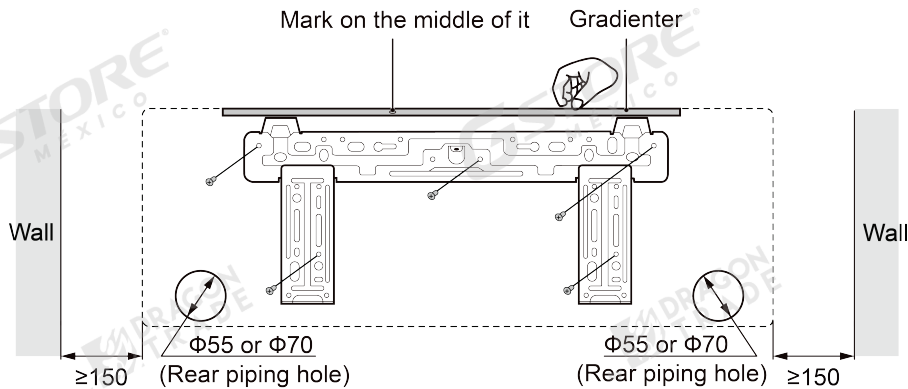

Fig 4.2
- ① Find the horizontal position by the seton method; since the drainage pipe is on the left side, it is necessary to adjust the rear panel to make its left side a little bit lower.
- ② Fix the rear panel on the wall by bolts.
- ③ After installing the rear panel, pull it by hands to check if it is secured enough. The hang panel should support the weight of an adult (60kg), and the weight shared by every bolt should be fairly even.
- ④ The diameter showed in Fig 4.2 is 55mm or 70mm.
- (1) Make the piping hole ($\Phi 55$ mm or $\Phi 70$ mm) in the wall at a slight downward slant to the outdoor side. The center of the hole should be determined referring to Fig 4.2.
- (2) Insert the piping-hole sleeve into the hole to prevent the connected piping and wiring from being damaged when passing through the hole.